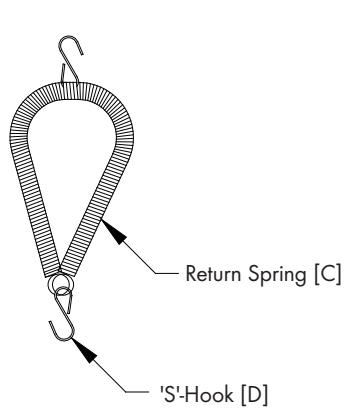
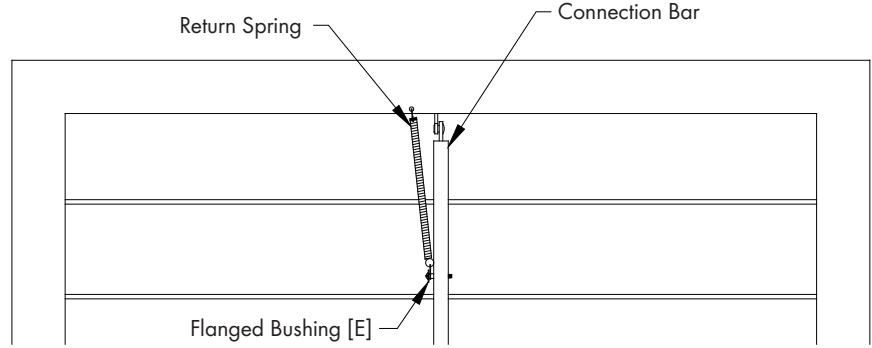

Figure 4
Figure 5
Fold (1) Spring [C] in half and hook end loops on (1) 'S' Hook [D] and pinch hook closed. At center of folded Spring [C] hook several loops of spring on a second 'S' Hook [D] and pinch closed. See Figure 4. Connect hook on one end of Spring Assembly through 1/8" diameter hole in frame and stretch spring to connect other hook over Bushing [E]. See Figure 5.